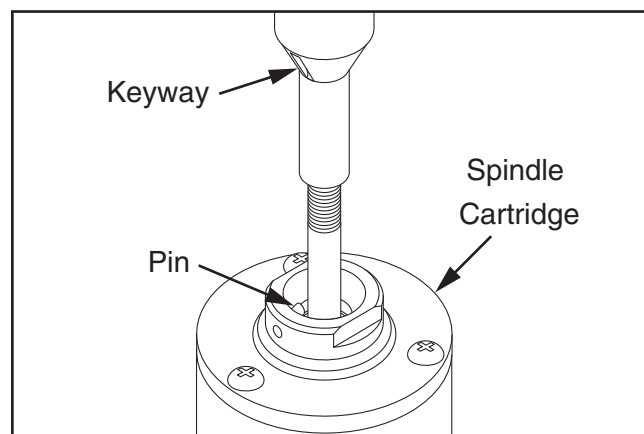

Figure 17. Dropping the spindle into place.
3. Place the spindle/drawbar into the spindle cartridge at the top of the table. Line up the keyway on the spindle with the locating pin at the top of the spindle cartridge (see **Figure 17**). You will feel the spindle seat itself.